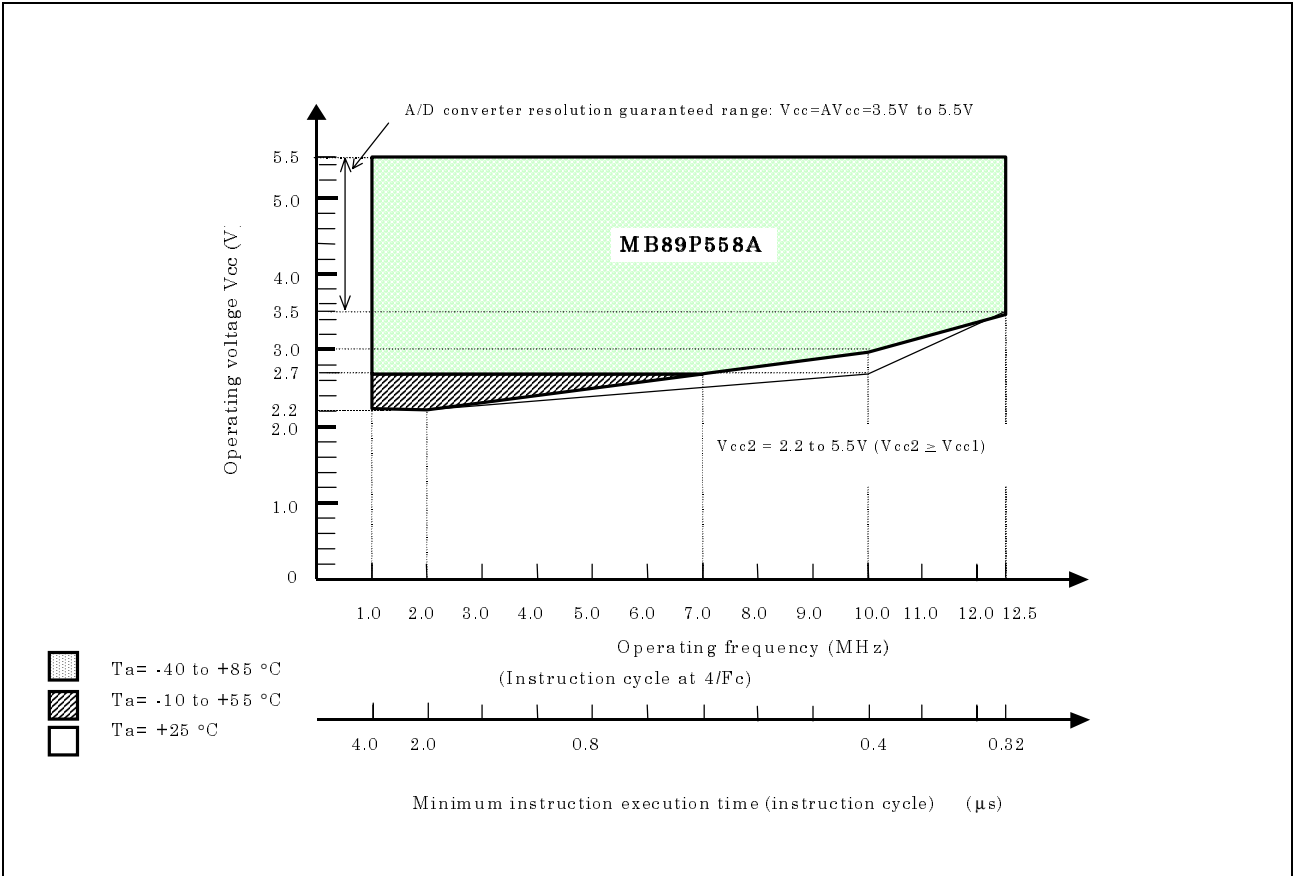

Figure 2: Operating Voltage vs. Main Clock Operating Frequency (MB89P558A)
*2: The operating voltage vary with the instruction execution time (instruction cycle time) of clock frequency. See figure 2 in details. Also, the V_{CC1} pin of the MB89PV550A has no internal connection circuit, and the V_{CC1} pin of the MB89P558A is used for the V_{PP} pin for the on-board programming. Please take a notice to use the V_{CC2}.